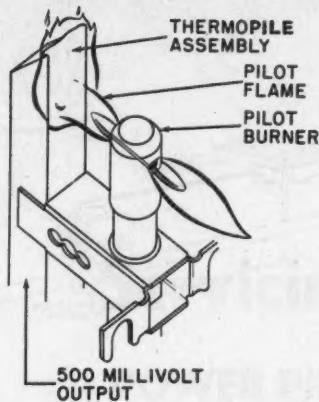
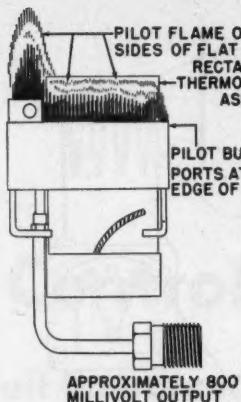

Fig. 4. The 350-500 millivolt powerpile uses a single burner port to heat the hot junction.
Fig. 5. Multiple parts at the top edge of each duct direct the flame at both sides of the thermopile assembly.
The 350-500 millivolt powerpile (Fig. 4) uses a single burner port to heat the hot junction. The 500-800 millivolt powerpile recently made available to the industry, is very radical in appearance and design. The Honeywell CS82 powerpile assembly, flat and rectangular in shape, is inserted between two flat but hollow connected ducts which are the body of the pilot burner. Multiple parts at the top edge of each duct direct the flame at both sides of the thermopile assembly—see Fig. 5. The same flame that heats the thermopile also lights the main burner. Air flows upward on both sides of the thermopile inside the ducts. Air flow is also upward on the outside of each duct. It has no primary air openings nor does it use primary air mixture. Yet, the pilot flame is always blue under varying operating pressures from 1 1/2-in. to 12-in. water column. It produces from 500 to 800 millivolts and can be
It uses secondary air only. There are no primary air openings. It is designed to burn with a blue flame in gas pressures from 1½-in. to 12-in. water column pressure. The volume of flame varies considerably between these extremes but the heating effect remains relatively constant. Fig. 5 shows the new powerpile burning with 3½-in. water column pressure drop. At this pressure it consumes only ½-ft of gas per hour.
2. Make sure the pilot is burning properly as in Fig. 5 with a steady blue flame. If the main burner lights momentarily but then goes out, a severe flame roll or ignition puff may be the cause. It may be necessary to relocate the unit (on new installations) or to install a baffle around it. Check the system again. If it still doesn't operate properly, *A TIMING CHECK* is in order.
When you begin servicing, compare the pilot flame in the system being serviced with the one shown in Fig. 5. The illustrated flame is the correct size for 3½-in. water column pressure drop. It will be smaller at lower pressures and larger at higher pressures. A yellowing at the tip over the inlet may also occur at high pressures. The most reliable standards by which to judge the flame are: (1) does it light the main burner properly, and (2) does it heat the thermopile sufficiently to generate normal voltage?